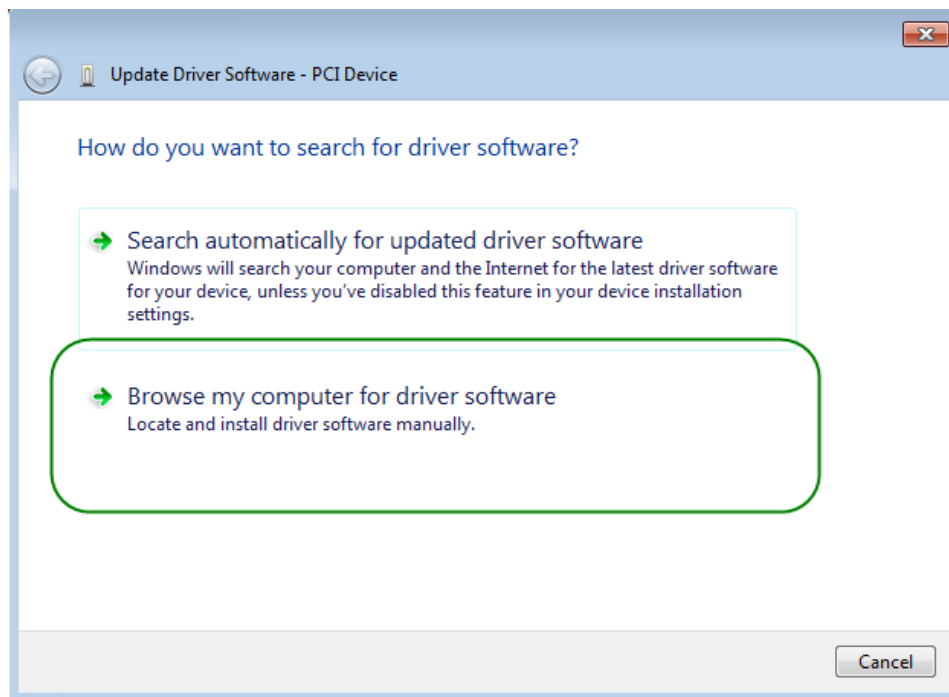

Figure 7-4 Dialog of Browse my computer for driver software
6. In the **How do you want to search for driver software** dialog, click **Browse my computer for driver software** item, as shown in **Figure 7-4**. Click “OK” and then “Exit” to close the installation program.